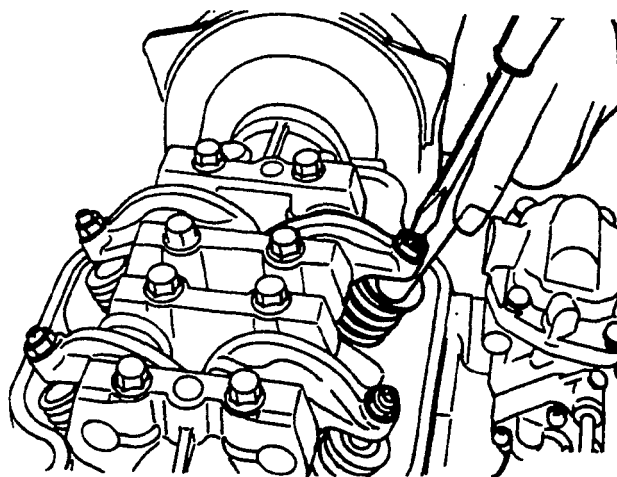

FIGURE 9-68. VALVE CLEARANCE ADJUSTMENT
4. Make the adjustment by turning the adjusting screws while using a thickness gauge to measure the clearance (Figure 9-68). Secure the following values.